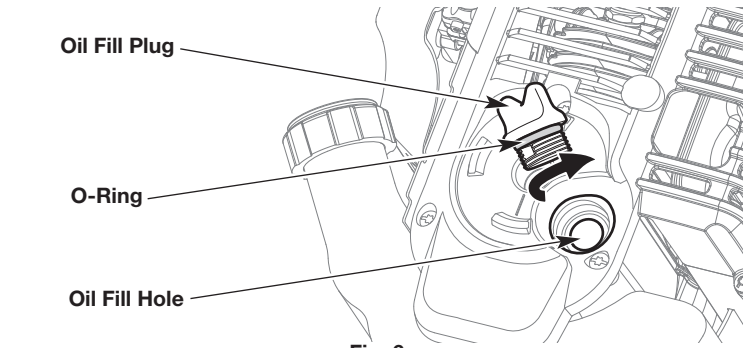

Fig. 6
2. Unscrew the oil fill plug (Fig. 6).
3. Pour 3.04 fluid oz. (90 ml) of oil into the oil fill hole (Fig. 6).
5. Make sure the O-ring is in place on the oil fill plug (Fig. 6).